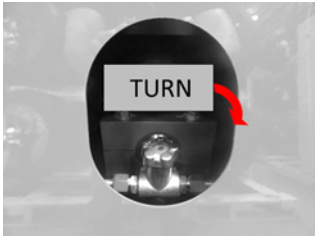

FIGURE 3 – CYLINDER MANUAL SHUT-OFF VALVE
- 2. Turning off a Stem Valve style valve, one should turn the valve handle clockwise until handle stops turning. (Figure 3)
**NOTE:** Use this method to turn OFF the valve on EACH tank. (Figures 3 and 4 Fuel System Cabinets figures 5 through 10 on page 3A)